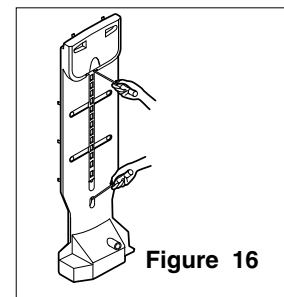

Figure 16
1. Remove the upper and lower caps by using a flat screwdriver, and remove 2 screws. (Figure 16)